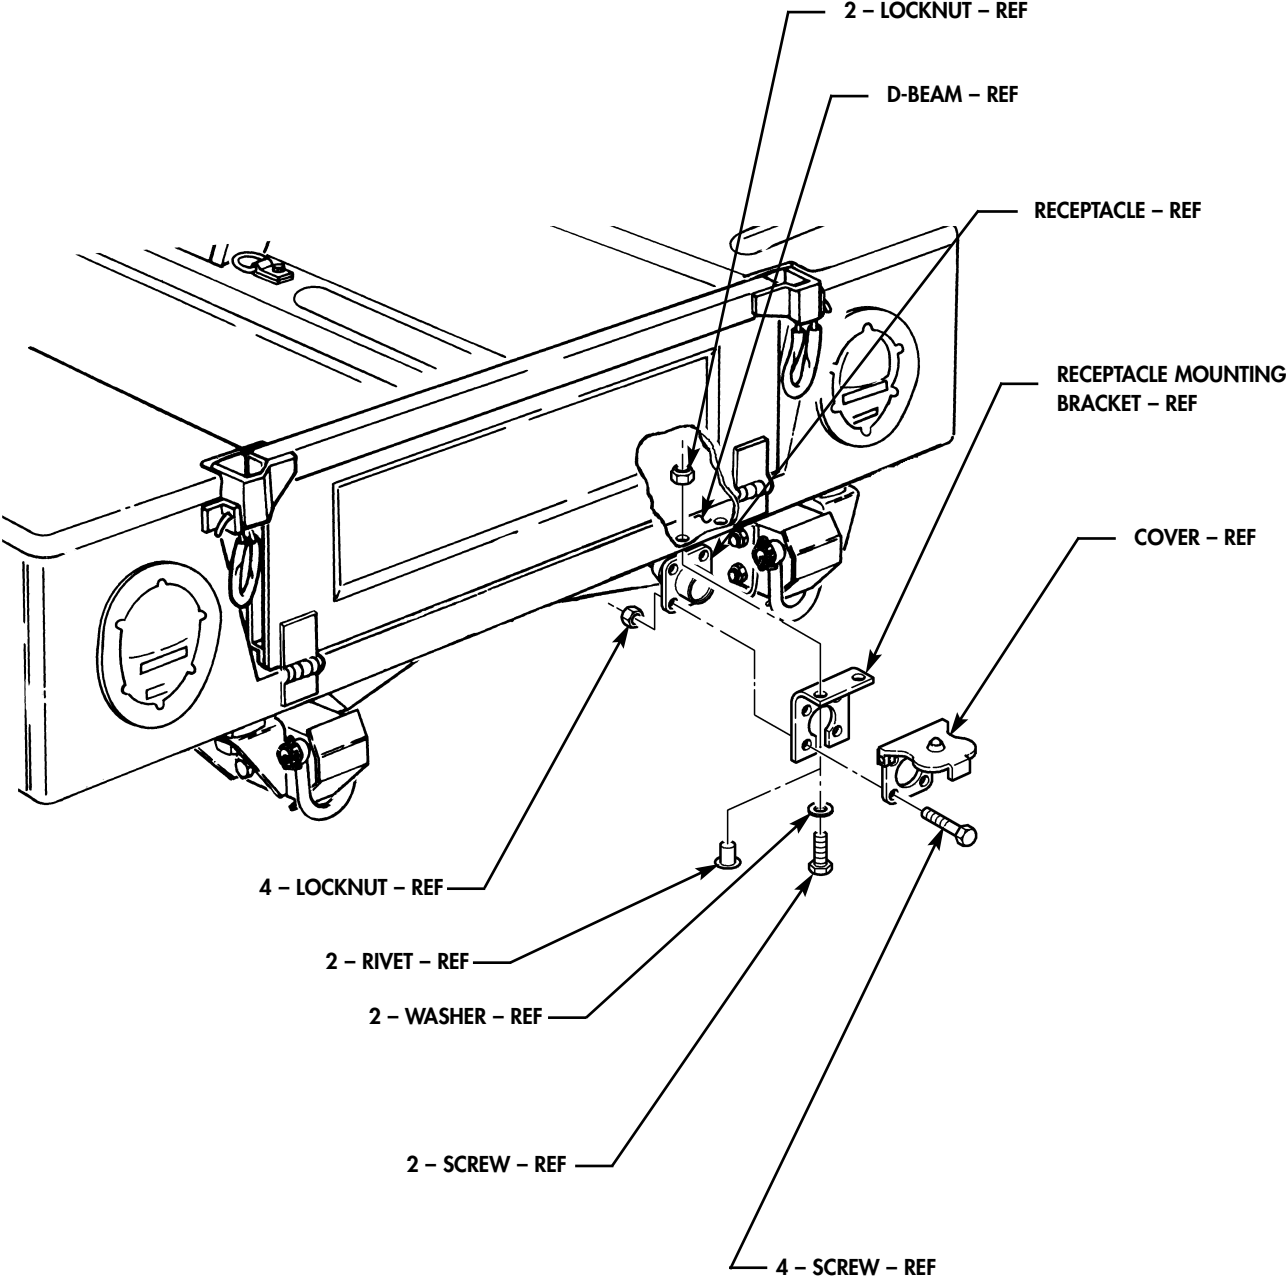

FIGURE 2
- (5) Remove four locknuts, screws, cover, and receptacle from receptacle mounting bracket as shown in figure 2. Discard locknuts.
- (6) Remove two rivets and receptacle mounting bracket from D-beam as shown in figure 2.
- (7) Remove two locknuts, screws, washers, and receptacle mounting bracket from D-beam as shown in figure 2. Discard locknuts.